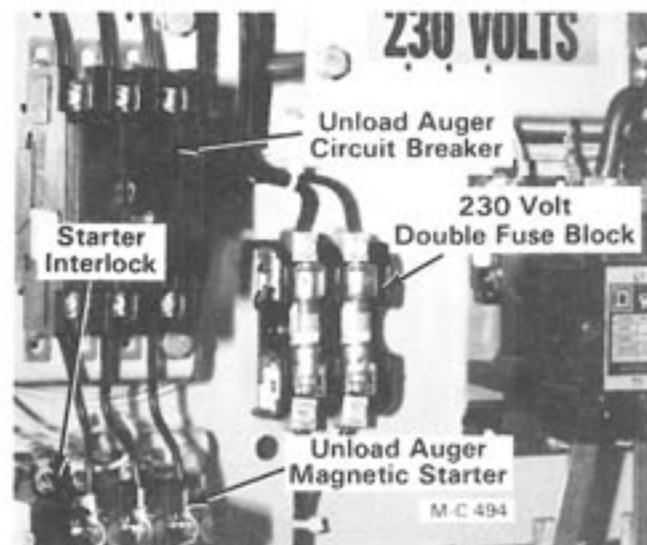

Figure 14
2. Install the transformer double fuse block (230 volt) or the two fuse holders (460 and 575 volt) on the back wall of the cabinet, see Figure 14. Drill 5/32" holes and mount the fuse block or holders with 10-32 x 3/4" Phillips self tapping screws and No. 10 star tooth lockwashers.
1. When the new START-RUN-OFF unload auger toggle switch is installed, it will be necessary to have an interlock installed in the unload auger motor magnetic starter, see Figure 14.